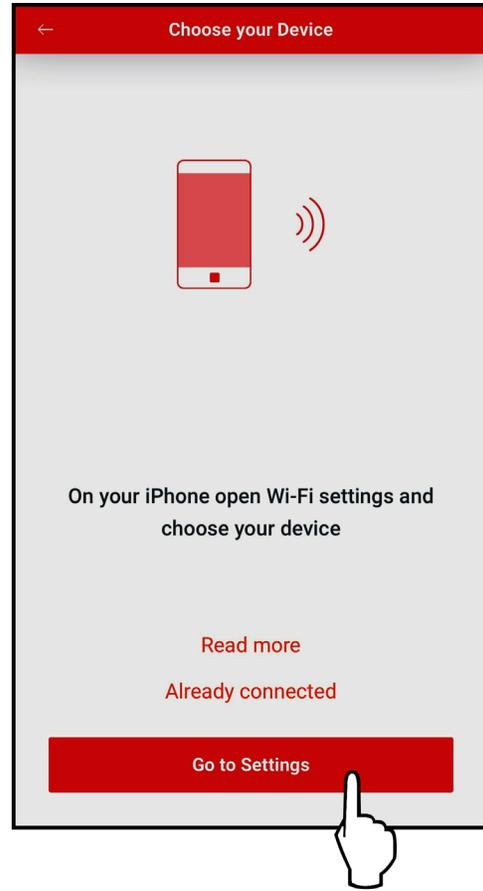

Figure 18. Go to Settings
2. Press the "Go to Settings" button on the Choose your Device screen. See **Figure 18**.